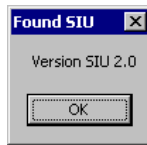

Figure 10. Found SIU
11. After downloading the parameters, which can take up to a minute a checksum check will be done to ensure that the SIU has received the new parameters. If the checksum is correct a message box is shown to confirm this, see Figure 10.